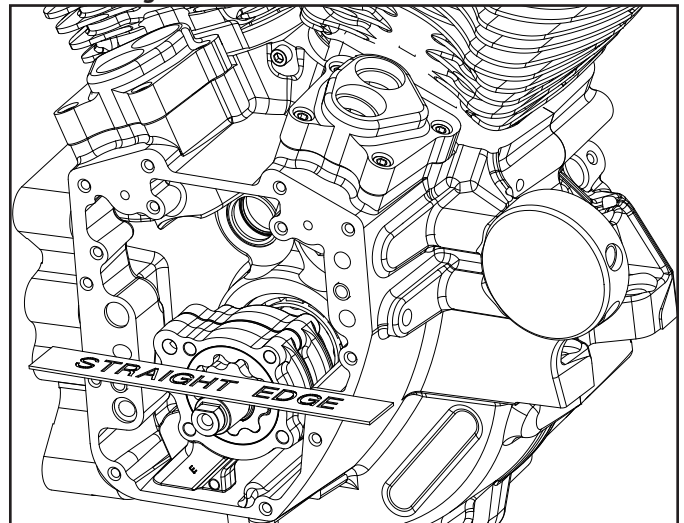

Figure 2
- Place straight edge across front of cam chest and make sure the face of the pump does not protrude past the cam chest gasket surface. **Figure 2**